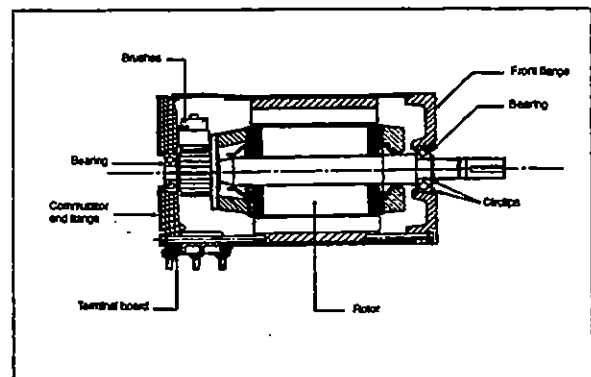

Figure 23: Condenser Fan Motor
2. Unscrew the flange retaining screws on the shaft end side (opposite to the commutator end frame), and separate flange from frame (Fig. 23).